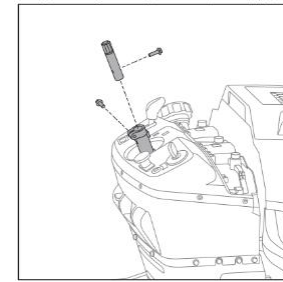

Fig. 4
1. Insert the upper steering shaft into the steering shaft connector (Fig. 4)
3. Using an additional hex flange screw insert into the side clamp and tighten until the gap is minimized. (Fig. 4)